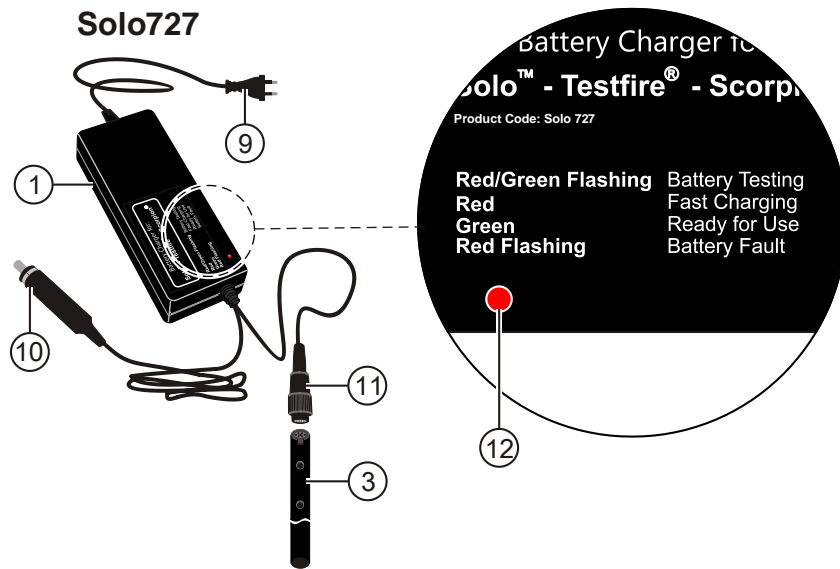

Fig. 4
1. Connect the charger's (1) connector (11) to a rechargeable battery (3) (Fig. 4).
2. Connect the mains cable (9) to the charger (1) and a socket for AC 110/120...220/240 V.
2. Connect the cable (10) to a socket for DC 12 V; e.g., a cigarette lighter socket in a vehicle.